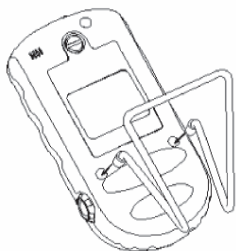

Figure 2-3 Fixing Holder
4) Fixing Holder, as shown in figure 2-3.